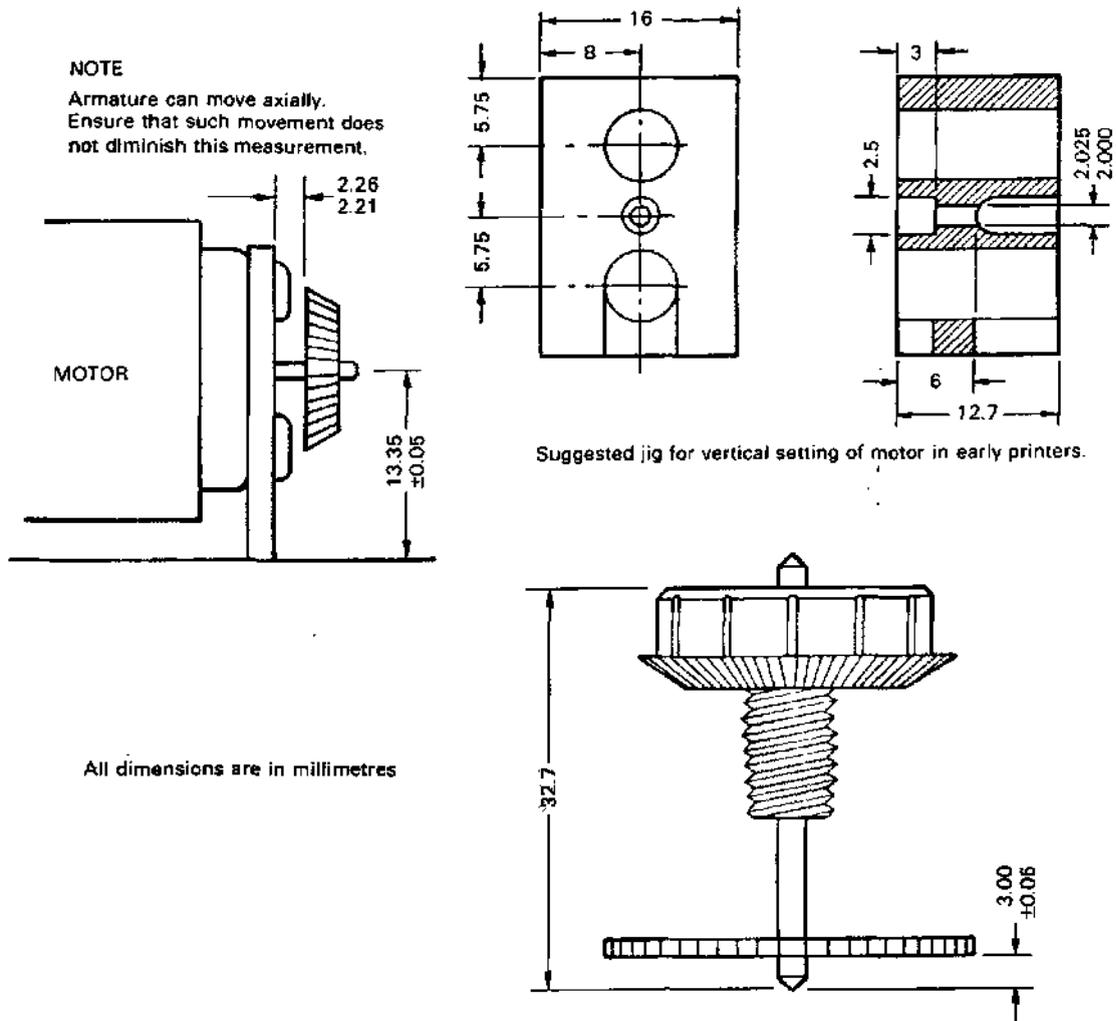

FIGURE 4 SETTING-UP DRIVE TRAIN
- (b) Position the motor on its mounting flange with the orientation mark (on the terminal end of the motor) at the outside, and insert the two attachment screws. If the printer is of the later design, the screws may be tightened fully at this stage. If the printer is of the earlier pattern, the vertical height of the motor must be set as shown in Figure 4; it may be advantageous to manufacture the jig shown in Figure 4 to ensure accurate setting of the motor before the screws are tightened.
If a spacer is not available, set the bevel pinion clearance as shown in Figure 4.